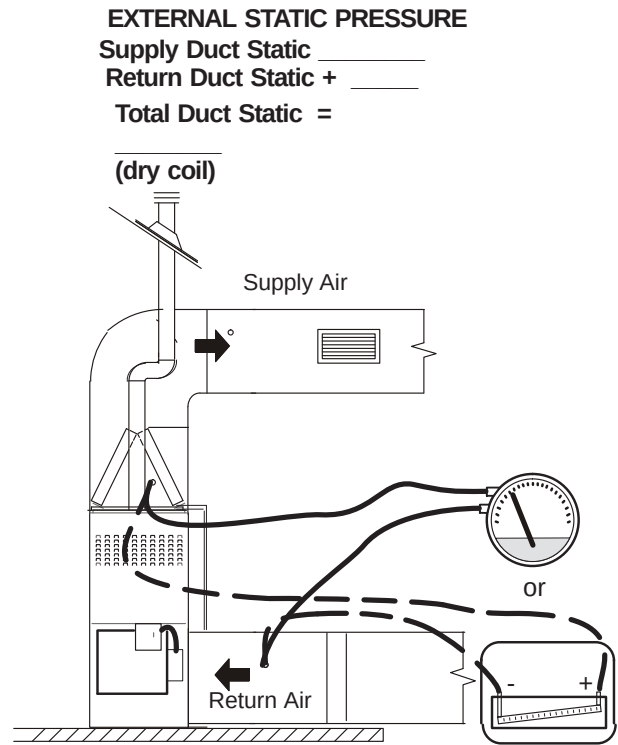

Figure 25.
1. Tap locations shown in **Figure 25**.